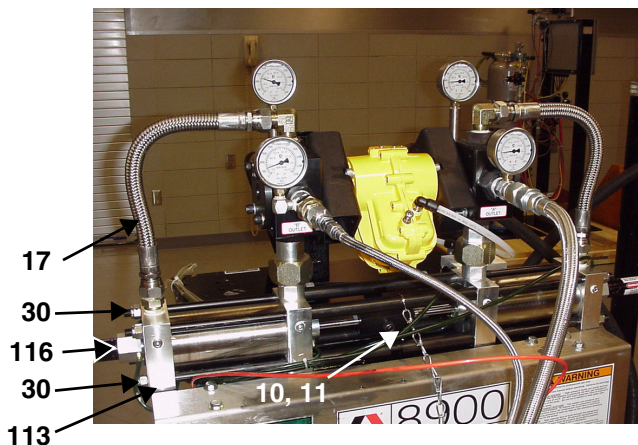

FIG. 29: Fixed Ratio 8900
- Disconnect hose (17) on cylinder end manifold, FIG. 29.
- Remove guard tube (116).
- Loosen and remove 4 locknuts (30).
- Loosen nut (10) on coupling (11) and disconnect pump rod from coupling.